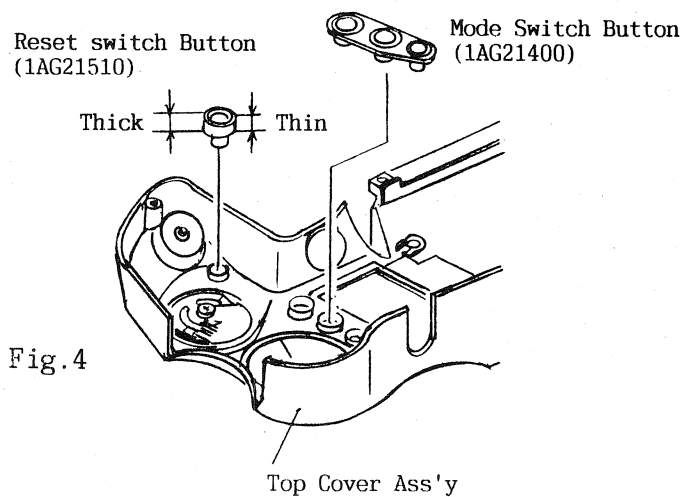

Fig.4
- a) Install the Reset Switch Button (1AG21510) and Mode Switch Button (1AG21400) in the Top Cover Ass'y as shown in Fig.4.